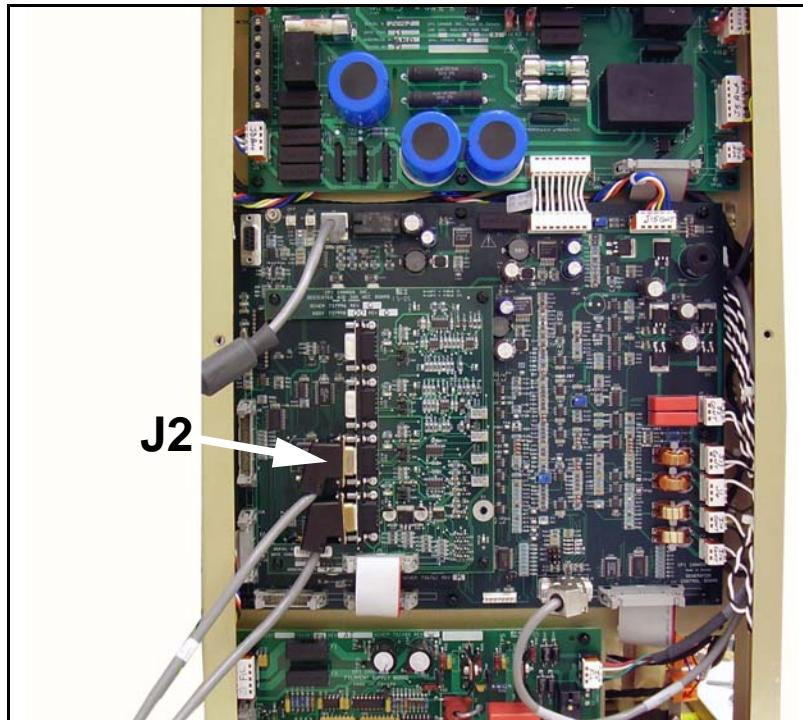
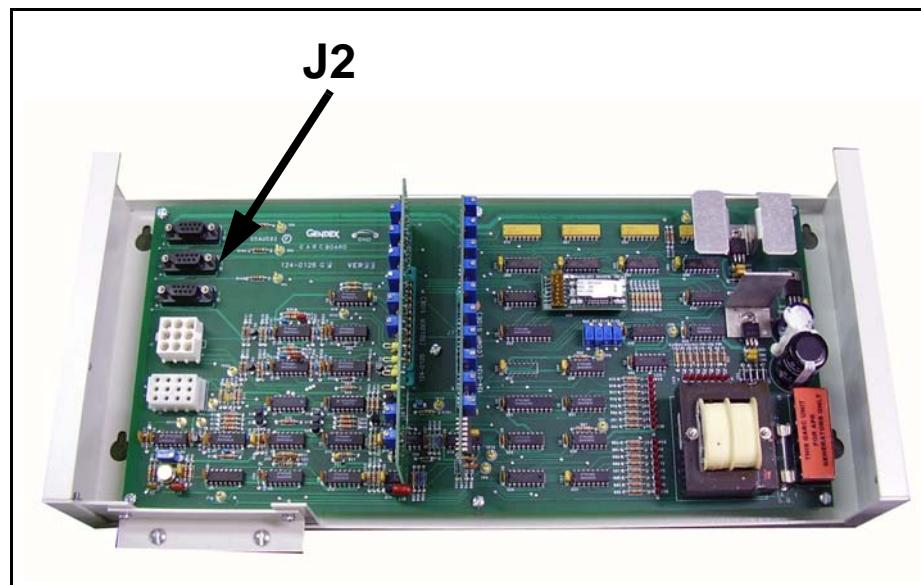

Figure 2-21. CPI CMP AEC Cable Hookup Point
Figure 2-23. APX/MPX/AEC Cable Hookup Point
- 2 Connect other end of AEC cable to J2 of generator in locations shown in Figure 2-21 through Figure 2-23.